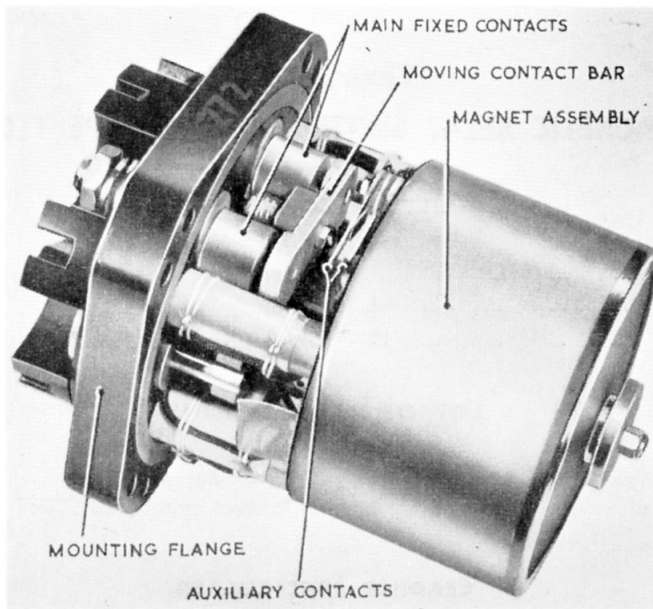

Fig. 2. Relay with cover removed
3. A view of the relay with the cover removed is given in *fig. 2*. The mechanism incorporates three main sub-assemblies, the terminal block and fixed contact assembly, the moving contact assembly, and the magnet assembly. Since the mounting flange is an integral part of the terminal block, all the other assemblies are mounted on it.